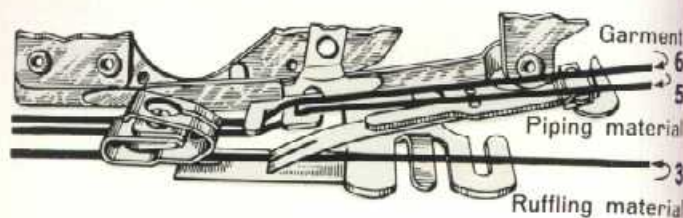

Fig. 73
- 1) Insert material to be ruffled between the two blue blades (LINE 3, Fig. 73).
- 2) Place piping material in ruffler (LINE 5, Fig. 73), with folded edge of piping to right.
- 3) Fold edge of material to which piping and ruffling are to be attached and insert it in ruffler (LINE 6, Fig. 73).